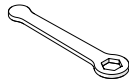

Fig. 44 - 3/8 wrench
- ▶ Also included in this kit is a 3/8 in wrench (Fig. 44), which is used to remove and install probe holder pivot buttons.